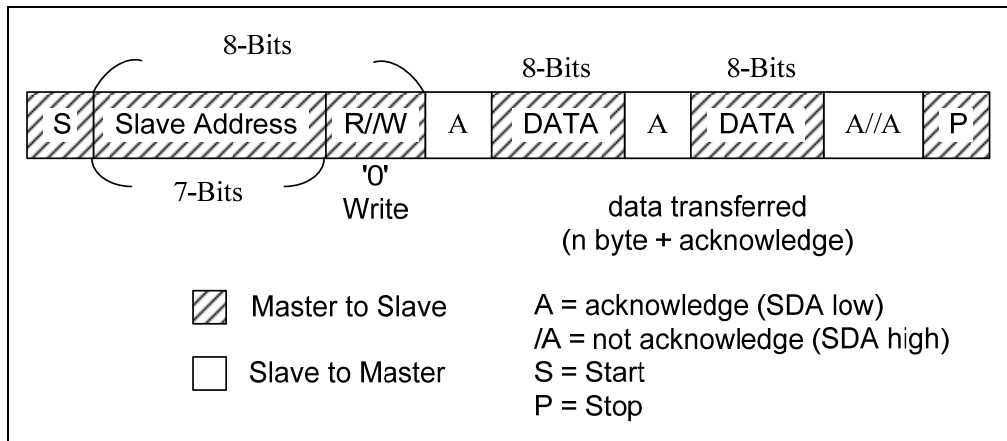
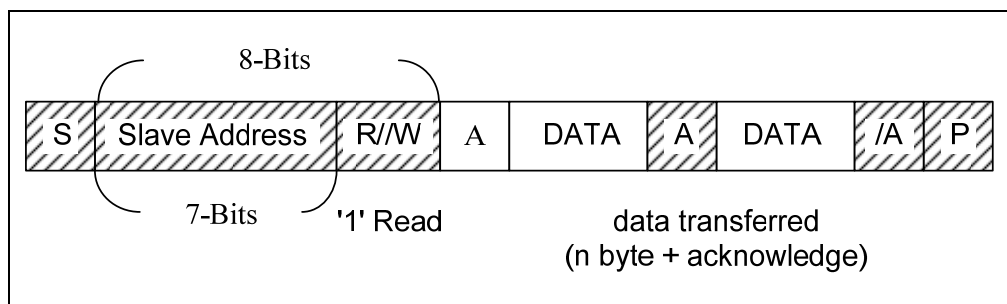

Figure 6-11c Master-Transmitter Transmits to Slave-Receiver with 7-Bit Slave Address
Figure 6-11d Master-Receiver Reads from Slave-Transmitter with 7-Bit Slave Address
The Master-transmitter transmits to Slave-receiver. The data transfer direction is not subject to change. The Master reads the Slave immediately after the first byte. At the moment of the first acknowledge, the Master-transmitter becomes a Master-receiver and the Slave-receiver becomes a Slave-transmitter. This first acknowledge is still generated by the Slave. The STOP condition is generated by the Master, which has previously sent a not-acknowledge (A). The difference between Master-transmitter with Master-receiver occurs only in R/W bit. If the R/W bit is "0", the Master device is a transmitter. Otherwise, the Master device would be a receiver (R/W bit is "1"). The Master-transmitter operation is further described in Figure 6-11c, and that of Master-receiver is described in Figure 6-11d below.